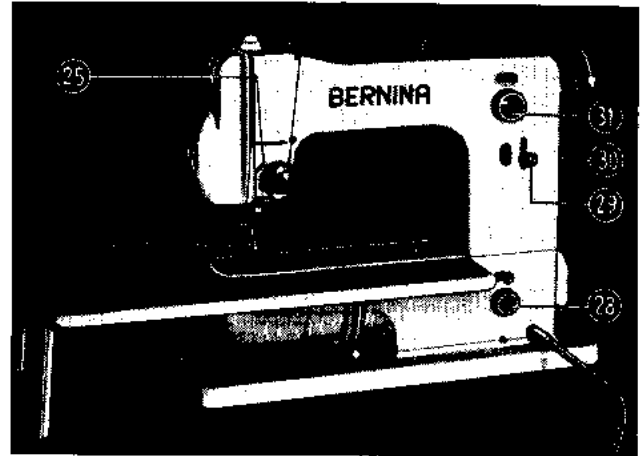

Fig. 22
1. Lower feed dog by turning knob 28 (Fig. 22) to the left until darning sign appears.
2. Set stitch regulator lever 29 (Fig. 22) on zero
3. Set zigzag adjusting knob 31 (Fig. 22) on 3 or 4.
When sewing on a lace, use a short and narrow stitch. Therefore, set stitch regulator 29 (Fig. 22) on No. 1 and zigzag adjusting knob 31 on No. 1 or 2. Place the lace on the fabric, about $\frac{1}{8}$ inch inside of its edge, so that the sewing is easier. Then sew the lace on and along this zigzag seam cut the superfluous part of the fabric that remains under the lace.
The roll hemmer, marked with two red stripes, is similar in form as the ordinary hemmer. The only difference is that the stitch hole is not round but large, so to allow zigzag sewing. Proceed as in ordinary hemming. Place zigzag adjusting knob 31 (Fig. 22) on No. 3 or 4. Roll hems are particularly used for edging fine material.
On the Bernina zigzag sewing machine any ornamental stitch can be made in a really simple manner. According to the desired stitch, place the stitch regulator 29 (Fig. 22) more or less below zero and while sewing, turn the zigzag adjusting knob 31 (Fig. 22) to the right and to the left. After having made a few stitches, one is already acquainted with this kind of embroidery.
3. Set zigzag adjusting knob 31 (Fig. 22) on No. 2. When sewing a buttonhole on jersey material, it is preferable to set this knob on 2¹/₂.
4. Adjust stitch regulator 29 so that the zero line of the scale will be a little under the sign of demarcation on the right hand side of the scale. This can be done only if lock screw 30 (Fig. 22) is not turned in too much.